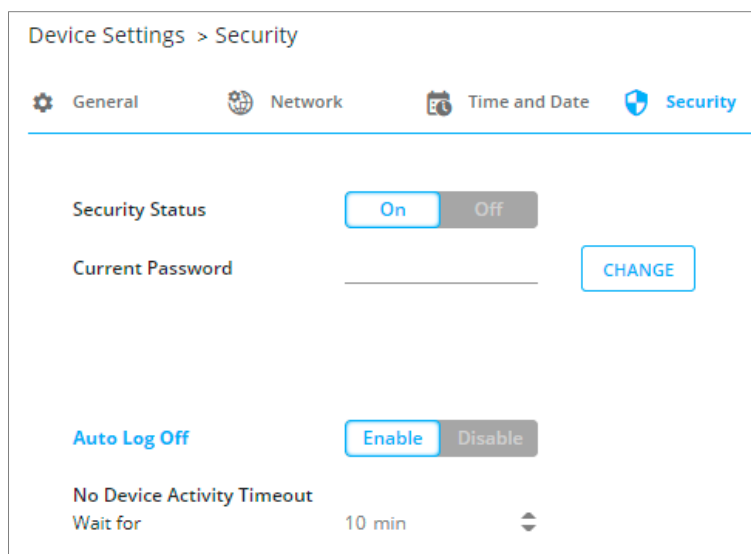

Figure 17: Device Settings > Security Page
1. Go to the Device Settings > Security page (Figure 17).